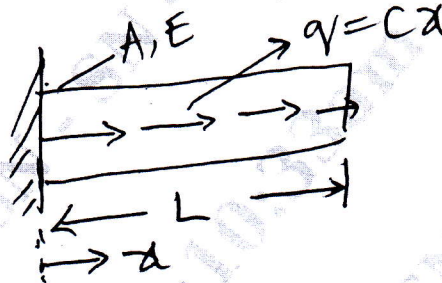

Fig.Q2(b)
b. A bar of length  $L$ , cross-sectional area  $A$  and modulus of elasticity  $E$ , is subjected to distributed axial load  $q = cx$ , where  $c$  is a constant as shown in Fig.Q2(b). Determine the displacement of the bar at the end using Rayleigh-Ritz method.